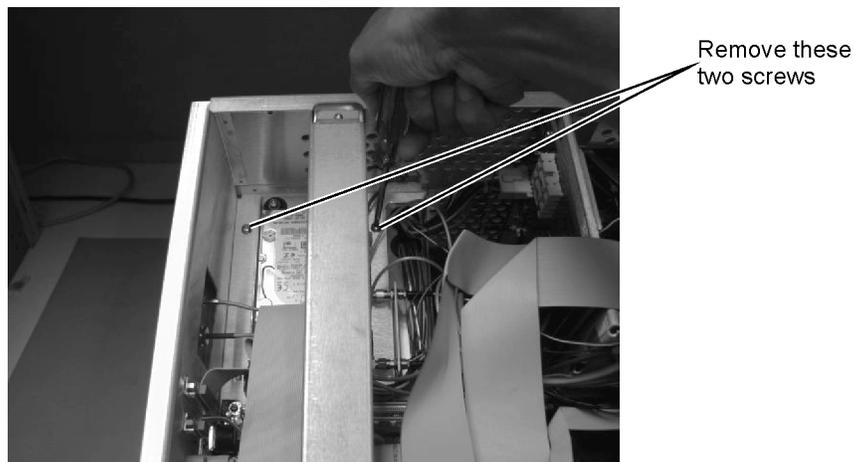

Figure 4-59. Removing the Screws on Top of the Hard Drive
- 3 Remove the two screws located on either side of the hard drive, as shown in Figure 4-59.